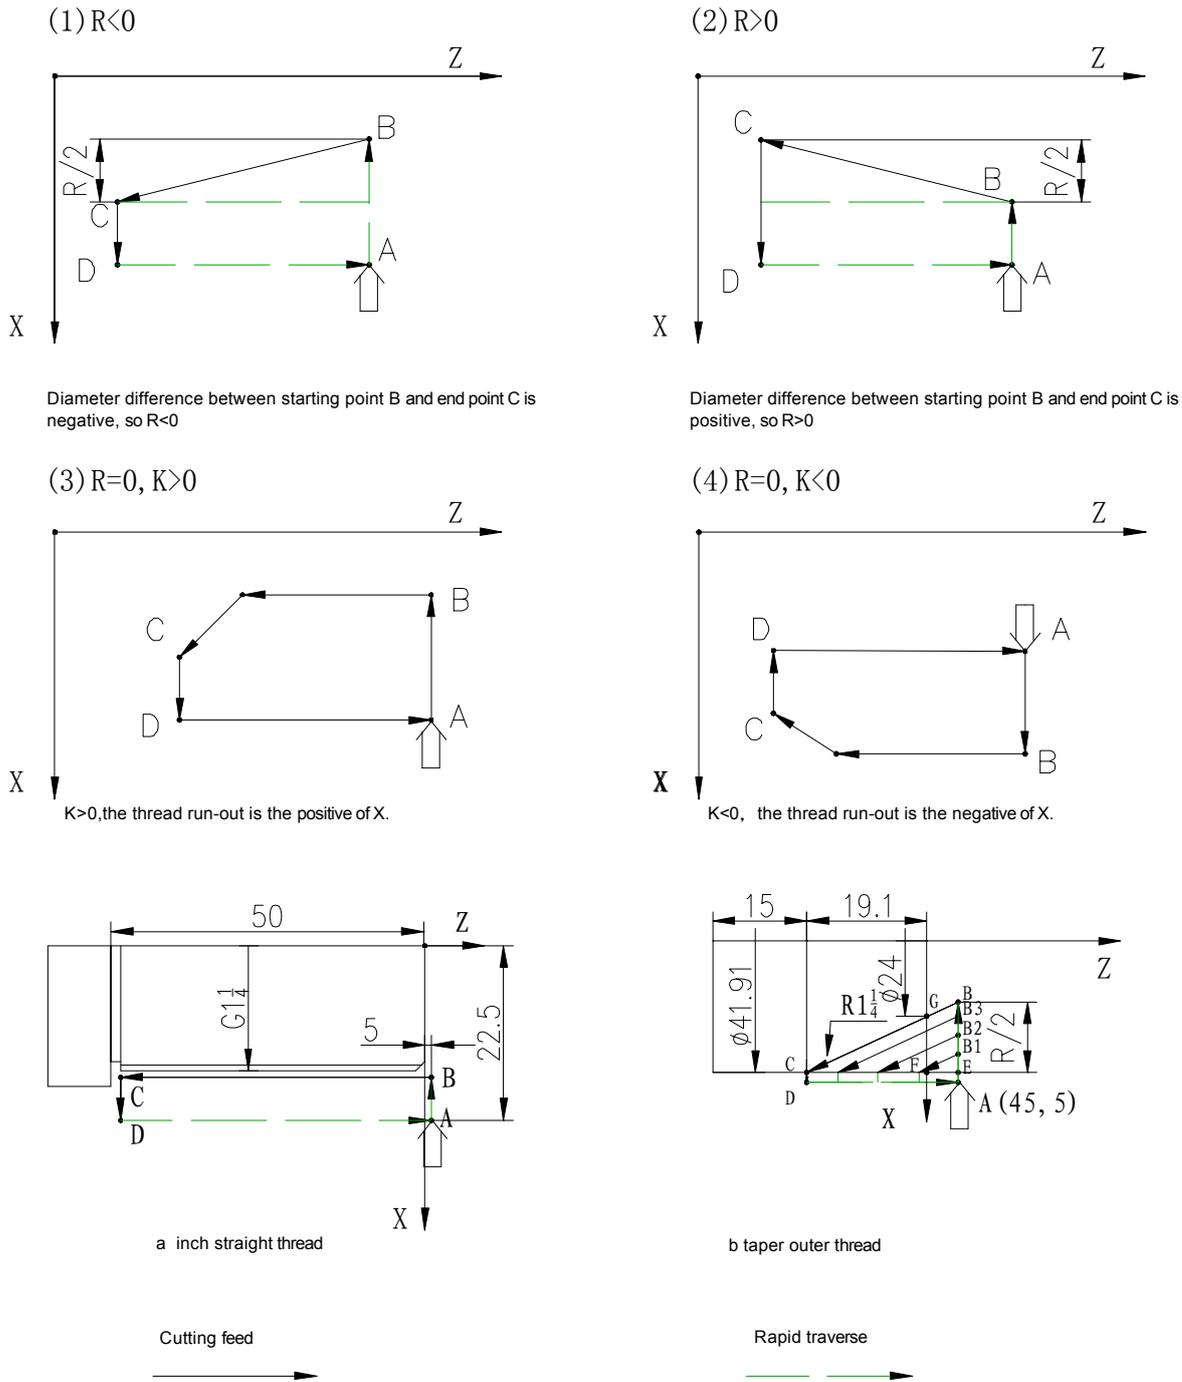

Fig. 17 G92 thread cutting cycle
**Example 1:** Metric straight thread as Fig. 17 a. ( $G1\frac{1}{4}:11$  teeth,  $D=41.910$ ,  $D2=40.431$ ,  $D1=38.952$ )
**Example 2:** Outer taper thread as Fig. 17 b ( $R1\frac{1}{4}$ : D=41.910, D2=40.431, D1=28.952, P=2.309, the valid length of thread is 19.1)